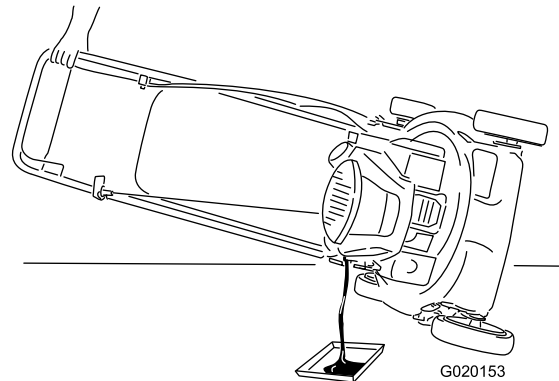

Figure 17
4. Tip the machine onto its side, with the dipstick down, to drain the used oil out through the oil-fill tube (Figure 17).